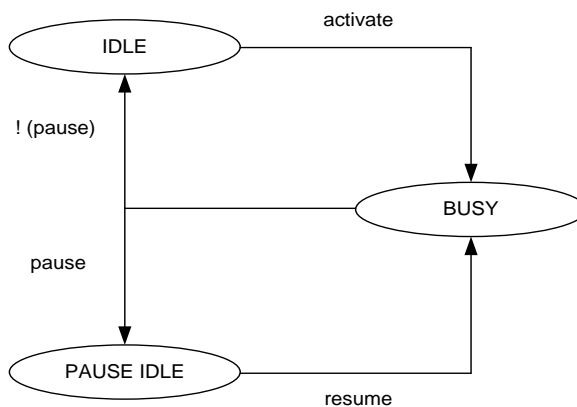

Figure 8-3. Operation flow with or without PAUSE mode
- In PAUSE mode, the CS_N signal stays active (low) after the transmission. At this time, the SPI master is in PAUSE_IDLE state, ready to receive the resume command. See Figure 8-3 for the state transition.